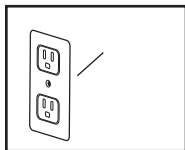
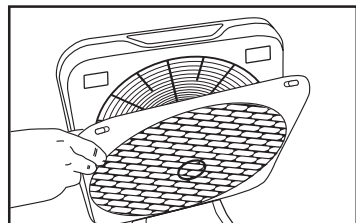

Fig. 4
Fig. 2
To reduce the risk of electric shock, this product has a grounding type plug that has a third (grounding) pin (Fig. 1). This plug will only fit into a grounding type power outlet. If the plug does not fit into the outlet, contact qualified personnel to install the proper outlet. Do not alter the plug in any way. If your home is not equipped with a grounded outlet, you may use a temporary adapter (Fig. 2). The tab for grounding screw extending from the temporary adapter must be connected to a permanent ground such as a properly grounded outlet box cover and it must be held in place by a metal screw (Fig. 3). The temporary adapter should be used only until a properly grounded outlet (Fig. 4) can be installed by a qualified electrician.
2. Pull the grill away from the body until the tabs at the bottom of the grill plate easily slide away from the unit. See Fig. 2 & 3